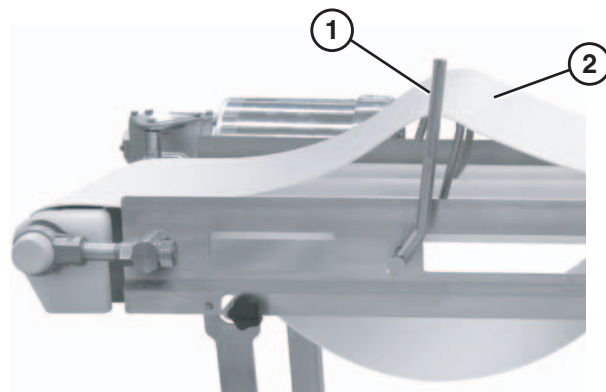

Figure 39
3. Use the lifter handle (**Figure 39, item 1**) to raise the belt (**Figure 39, item 2**).